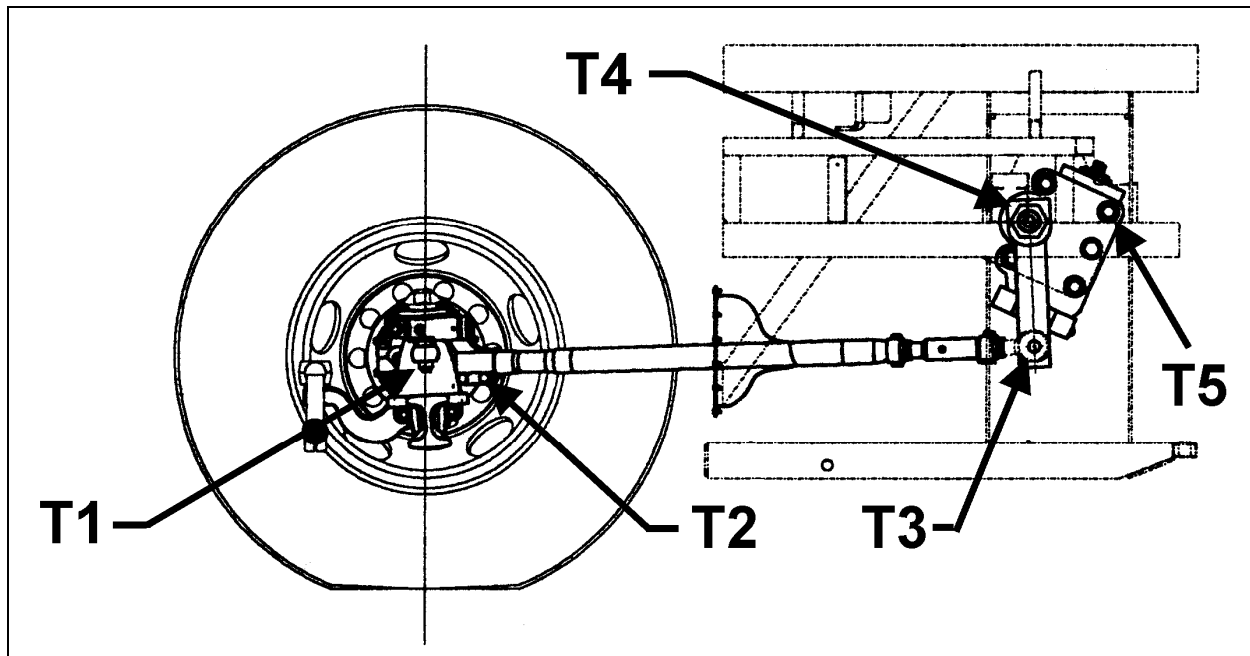

FIGURE 21: DRAG LINK COMPONENTS
| Drag Link End Stud Nut (on steering arm) | Fig. 21, T1 | 160-300 | 220-410 |
| Drag Link End Pinch Bolt Nuts | Fig. 21, T2 | 40-60 | 55-80 |
| Drag Link End Stud Nut (on pitman arm) | Fig. 21, T3 | 150-200 | 203-271 |
| Pitman Arm Fixing Nut | Fig. 21, T4 | 470-570 | 637-773 |
| Steering Gear Fixing Bolts (5) | Fig. 21, T5 | 365-405 | 495-550 |